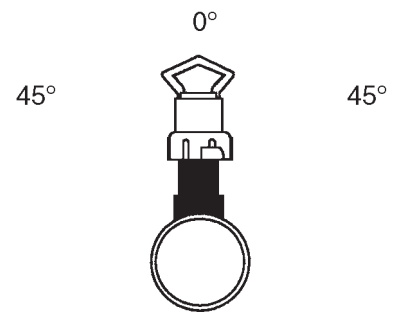

Figure 43.
- a. Because of certain installation requirements due to space restrictions, it may be necessary to tilt the flow sensor slightly, (max. 45° angle). Excessive angles will cause bearing drag on the flow sensor rotor at lower flow rates (see Figure 43).